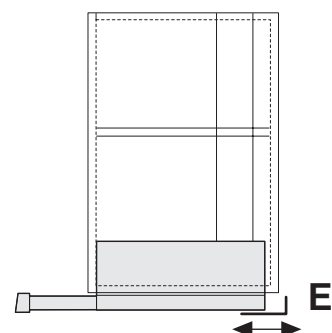

Fig. 6
- By means of the appropriate screws, fit the angle iron **E** (Fig.6) so that it is tightly fixed to the wall.